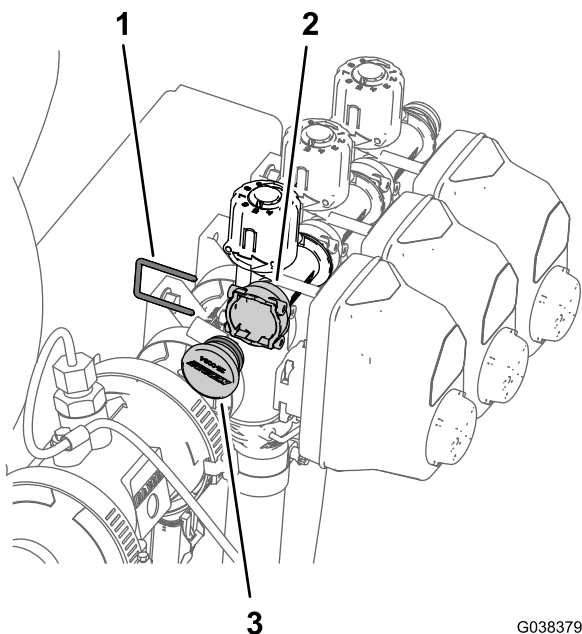

Figure 83
1. Remove the retainer that secures the plug to the socketed quick-connect fitting of the bypass manifold (Figure 83).
- Remove the plug from the socketed quick-connect fitting (Figure 83).